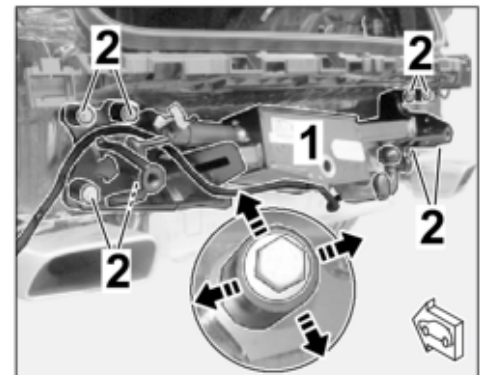

Figure 7
2.1.2 Align bolt guides for the trailer hitch (8 x) symmetrically with respect to the 8 bolt heads M12 x 1.5 x 90 ( ⇒ *Figure 7 -Magnifier-*).